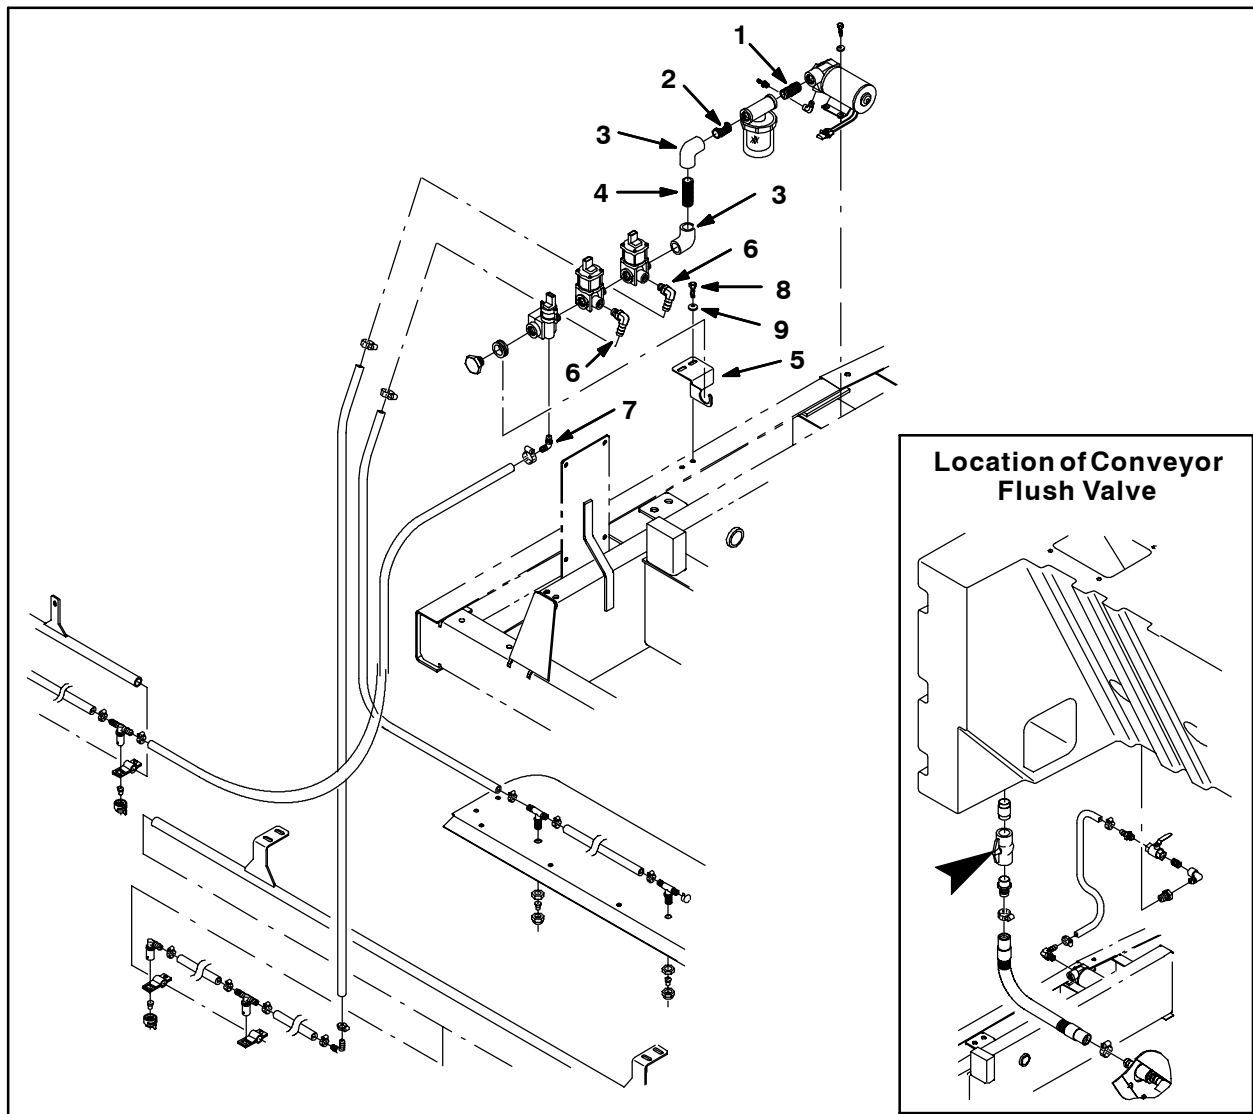

FIG. 5
1. Machines equipped with a valve on other end of hose attached to water pump (E): Close valve to shut off supply of water to water pump.
Machines not equipped with a valve on other end of hose attached to water pump (E): Open conveyor flush valve (located in front of water pump) to drain water from water tank. Refer to Fig. 5 for location of conveyor flush valve.
13. Use the previously removed hardware to reinstall the entire pump/strainer/valve assembly onto the machine. Refer to Fig. 5.
14. Reconnect water lines (A), (B), and (C) to the valves (G). Refer to Fig. 5.